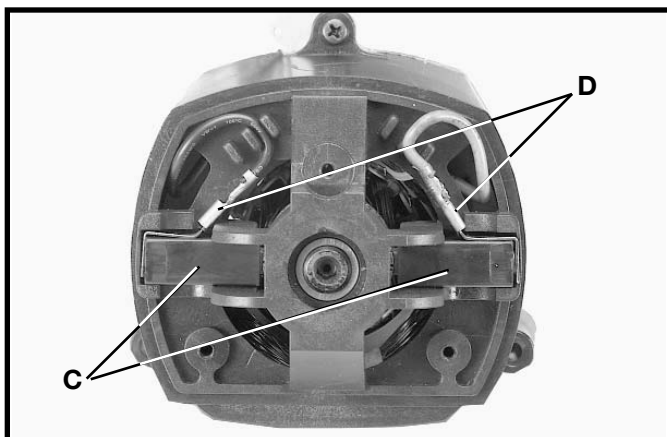

Fig. 50
2. The brushes are located in the two holders (C) Fig. 50. Remove spade type terminal connectors (D) and pull out brush holders (C).